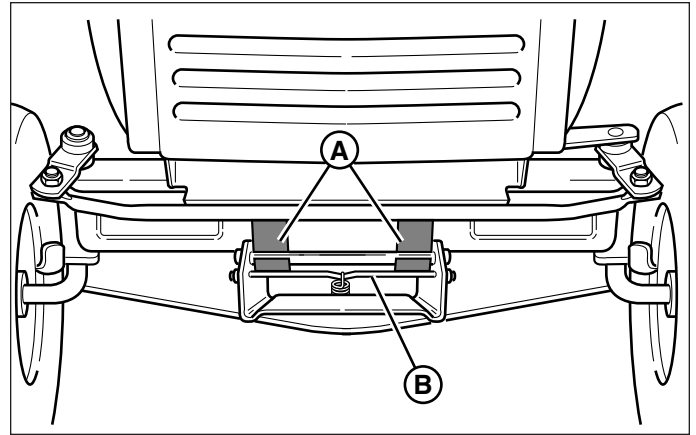

Figure 13. Mower Hitch
6. Turn wheels straight ahead. Pull back on spring-loaded lever (B, Figure 13) and lift mower hitch off of the tractor brackets.
4. See Figure 13. Turn wheels straight. Pull back on the spring-loaded lever (B) while lifting up on the mower hitch. Install mower hitch onto tractor hitch brackets (A). When properly installed, the spring-loaded lever should seat fully underneath the brackets.